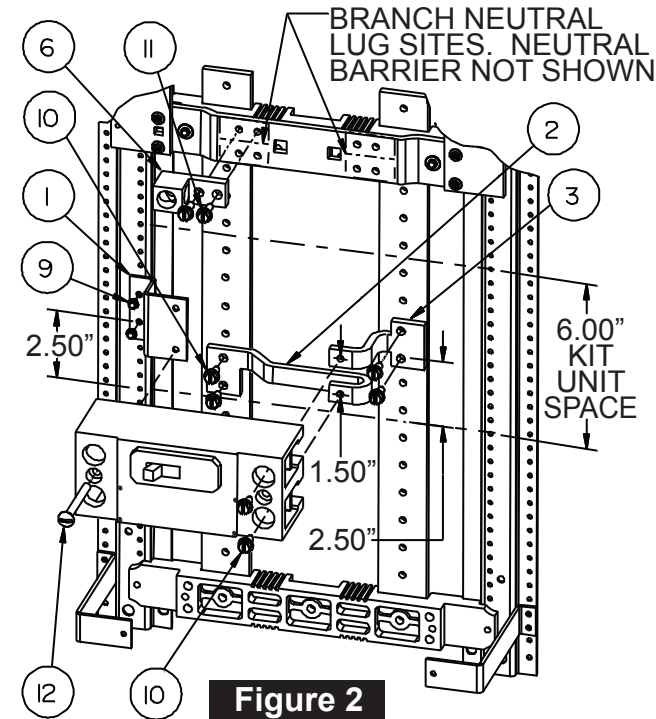

Figure 2
6. Refer to Figure 2: Position the breaker support (Item 1) on the base rail in the center of the 6" kit unit space as shown. Fasten it to the base rail with two #8-32 screws (Item 9). Fasten the long outer connector (Item 2), and the Type A short outer connector (Item 3) to the panel bus with four 1/4"-20 x 5/8" screws (Item 10) as shown.
8. Position the breaker as shown in Figure 2, with the handle in the upper position and inline with the center of the support (Item 1) on one side and the center of the Type A short outer connector (Item 3) on the other side. Bring the breaker line pads into contact with the connectors. Fasten the breaker to the support with one 1/4"-20 x 2-1/2" machine screw (Item 12) through the lower hole in the support. Do NOT tighten until the bus connections are made. Fasten the breaker line pads to the connectors with two 1/4"-20 x 5/8" screws (Item 10).